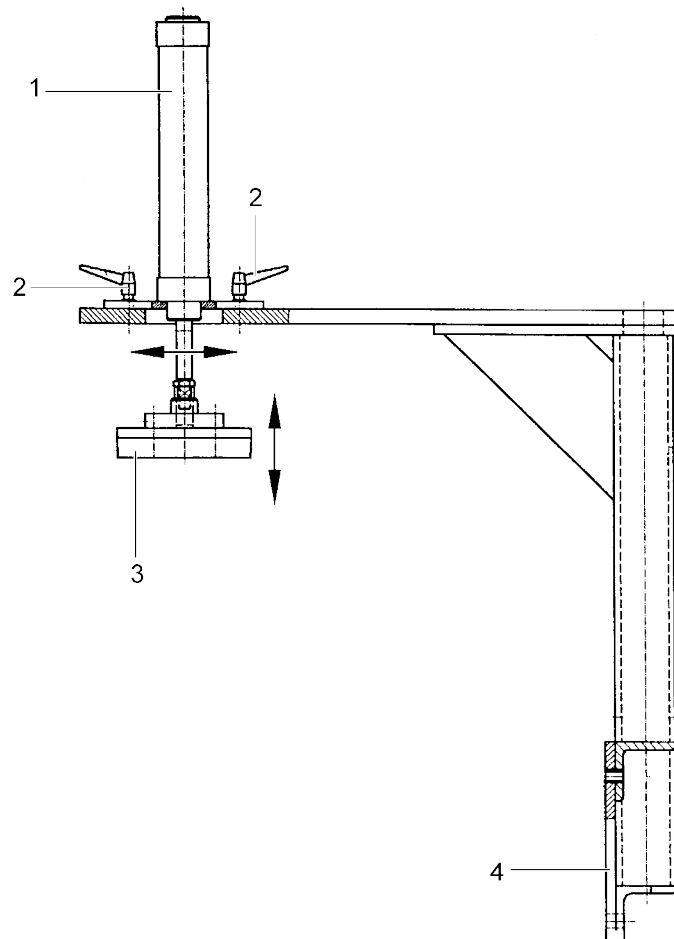

Figure 7.7
- (3) Move the contact pressure weights to the top end position by operating the control valves (see Fig. 7.7).
- (4) Plug the male connector on the machine connecting cable into a socket with the supply voltage specified in the tech. data.